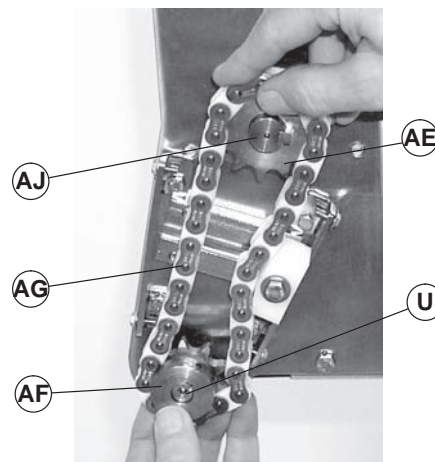

Figure 13
6. Install timing chain (Figure 13, item AG) over sprockets (AE and AF). Install timing chain and sprockets on conveyor input shaft (U) and gearmotor output shaft (AJ). Do not tighten sprocket set screws.